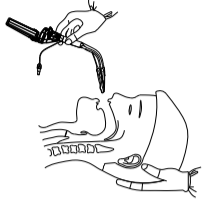

Figure 3.1.1
1. Place the head in the neutral position and aim the distal tip of the laryngeal mask at the mouth with one hand. See figure 3.1.1 .